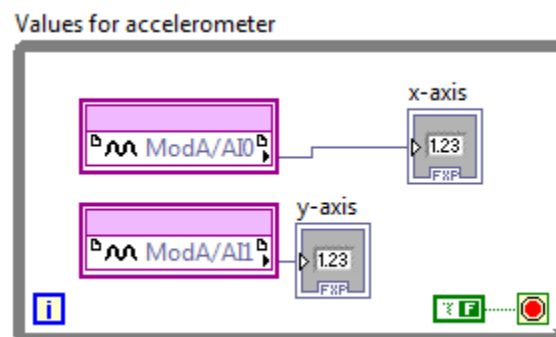

Figure 4.1
Step 1: Start LabVIEW(LV) Robotics 2009, and then create a new robotics project. The project explorer window will then pop up. Save this project as Lab4Accelerometer. Once the project has been created it will automatically build and open the Roaming VI from lab 1. Minimize this for now; however, we will be copying elements of this code later.
Step 5: Next, drag the ports that you will be using into the while loops. For the purpose of this tutorial, we will use ports AI0 and AI1. Afterwards, right click on the second output of each port (not the FPGA I/O output), select create, and then select indicator. Next, label the indicators x-axis and y-axis, pins AI0 and AI1 respectively. Once you have completed this step, the block you have added to your FPGA will look like figure 4.1. (*This is the same process as used in the Lab 3 tutorial.*)